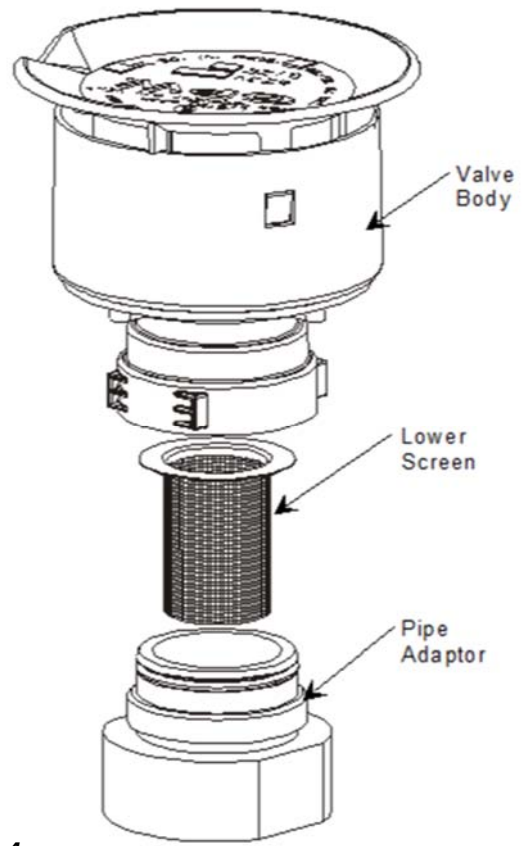

Figure 3
2. Clean or replace filter screen (P/N H14895M for 623V) as necessary and reinstall Fig. 3.